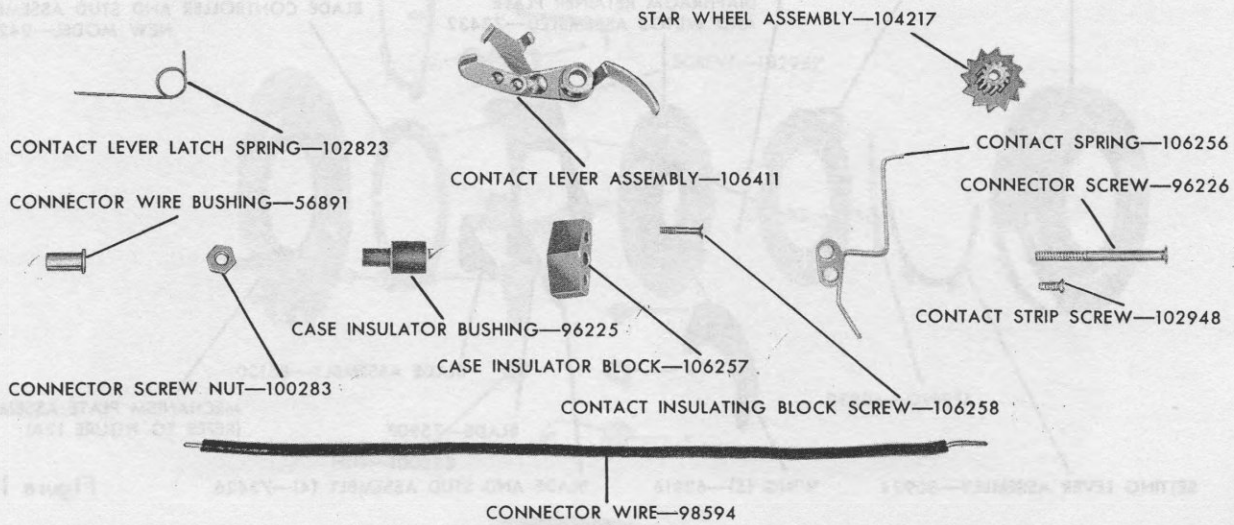

Figure 13
14. BLADE CONTROLLER, figure 13.
3. BLADE WITH DOUBLE BLADE BUSHING and stud, figure 13, with the hole in the blade over the stud on the mechanism plate, near the BLADE CONTROLLER LUG, figure 26. Refer to figure 15 for positioning of the shutter blade.
4. Proceeding counterclockwise, replace four BLADES WITH STUD, figure 13, allowing the wide end of each blade to overlap the narrow end of the preceding blade.
*DISCONTINUED—REPLACE WITH KIT NO. 121352—REFER TO FIGURE 13